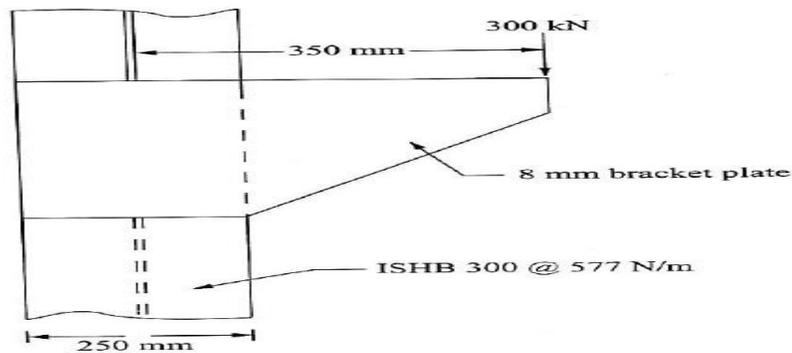

Figure.1
12. A bracket is bolted to the flange of a column as shown in Figure.1. Use 8 mm thick bracket plate and M₂₀ bolts of grade 4.6. Design the connection. 16 CO1 [K₃]